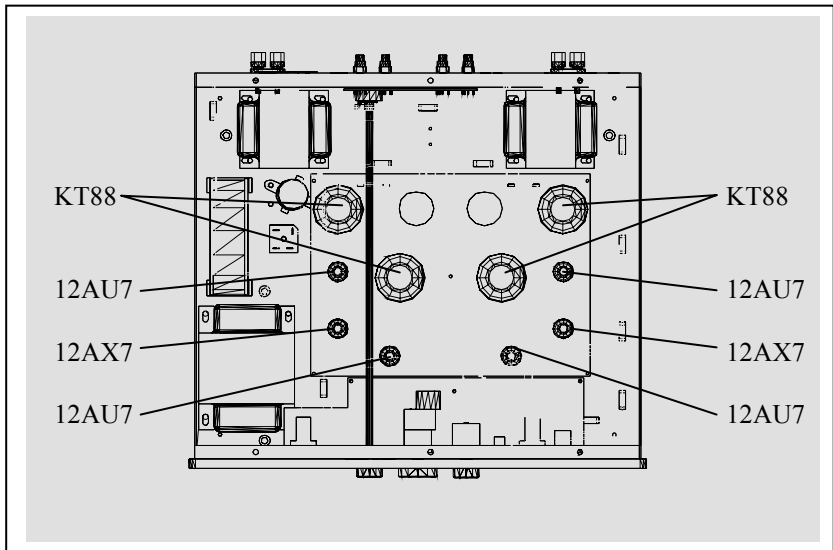

Figure 3
- 5) *Inspect Input and Driver Tubes* - Inspect the remaining tubes to ensure that they are fully seated in their ceramic sockets. If a tube appears to be tilted or otherwise dislocated, using a glove or clean cloth, press down gently on the tube to re-seat it in its socket. See Figure 3 for tube locations.